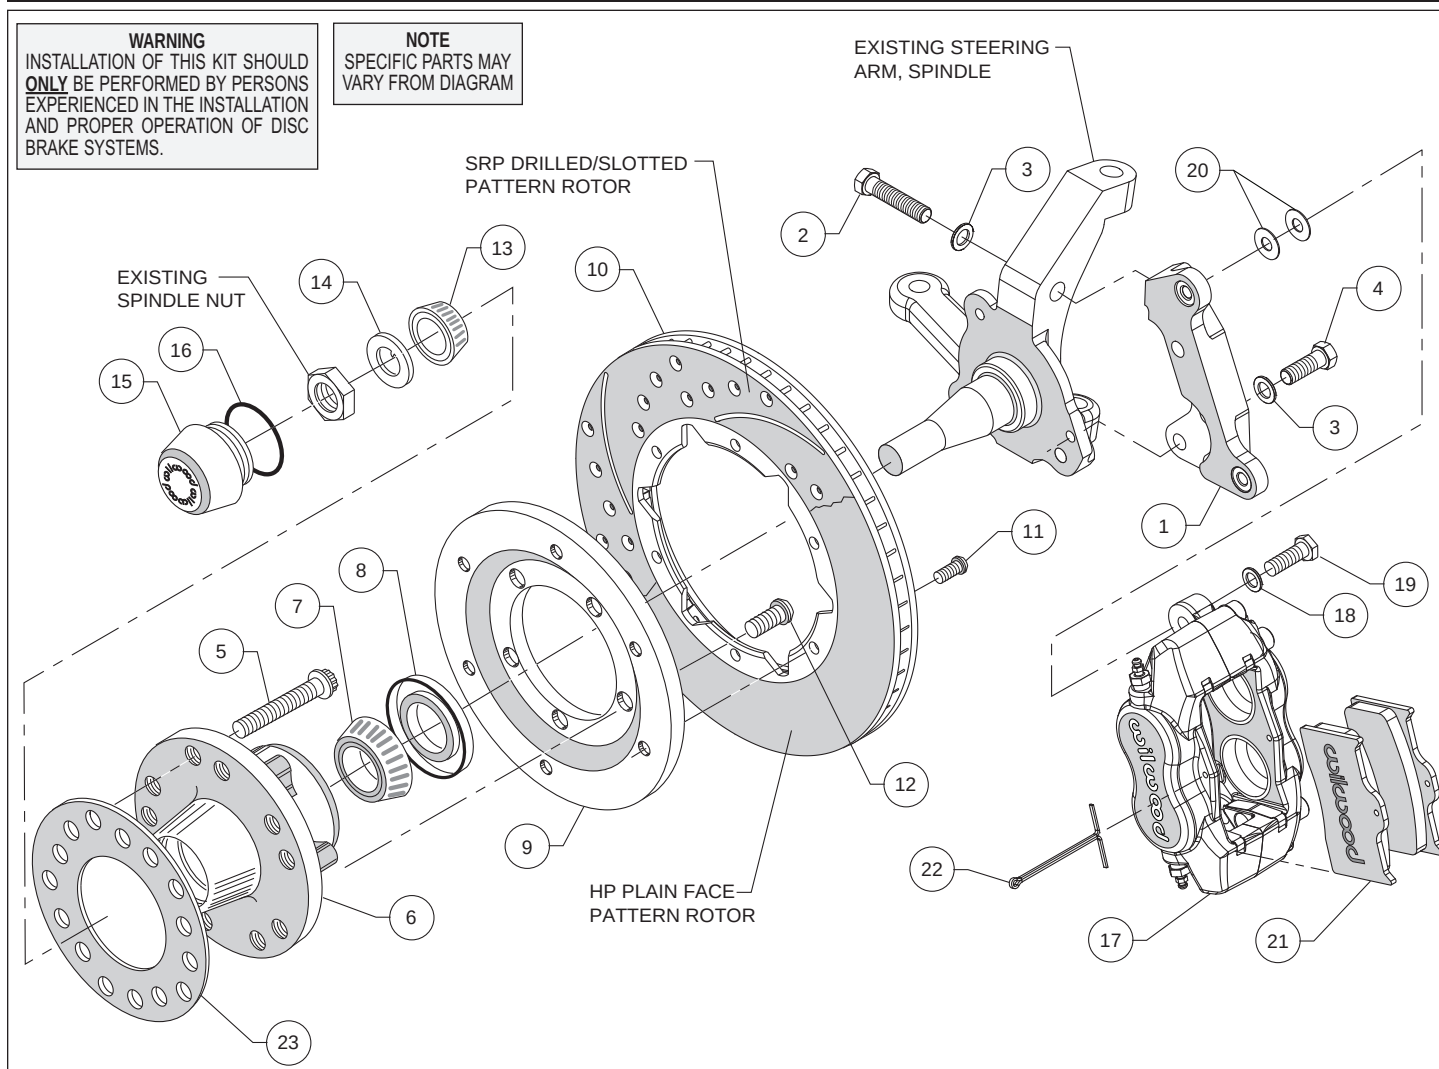
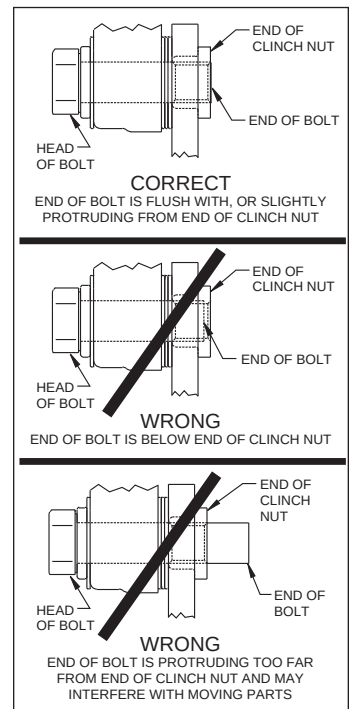

Figure 1. Typical Installation Configuration
Figure 3. Clinch Nut Engagement Diagram
Assembly Instructions (numbers in parenthesis refer to the parts list, on the preceding page and Figure 1): **CAUTION:** All mounting bolts must fully engage clinch nuts. Be sure to check that all bolts are either flush or protruding through flanged side of clinch nut after shimming, Figure 3.
- Align caliper mounting bracket (1) with the corresponding holes on the spindle. Attach using bolts (2 and 4) and washers (3) as shown in Figure 1 and Photo 1. Temporarily tighten the mounting bolts. Ensure that the flanged heads of the clinch nuts in the bracket are facing outboard, Photo 1. **NOTE:** The bracket must fit squarely against the mounting points on the spindle. Inspect for interference from casting irregularities, machining ridges, burrs, etc. Remove bolts one at a time, apply red *Loctite*® 271 to threads and torque to 47 ft-lbs.
- Install the grease seal (8) by pressing into the backside of the hub (6), flush with the end of the hub, Photo 3.
- Orient the rotor (10) and the rotor adapter (9) as shown in Figure 1 and Photo 4. Attach the rotor to the adapter using bolts (11). Using an alternating sequence, apply red *Loctite*® 271 to the threads, and torque to 25 ft-lb.
- Mount the adapter/rotor assembly (9/10) to the hub (6) using bolts (12), as shown in Figure 1 and Photo 5. Using an alternating sequence, apply red *Loctite*® 271 to the threads, and torque to 45 ft-lb.
- NOTE:** Please reference the caution statement at the beginning of the assembly instructions. Mount the caliper (17) onto the caliper mounting bracket (1) using bolts (19) and washers (18), as shown in Figure 1. Initially place two .035" thick shims (20) on each bolt between the caliper and the bracket, Photo 8. Temporarily tighten the mounting bolts and view the rotor (10) through the top opening of the caliper. The rotor should be centered in the caliper, Photo 9. If not, adjust by adding or subtracting shims between the bracket and the caliper. Always use the same amount of shims on each of the two mounting bolts. **NOTE:** The end of each bolt must be flush with or slightly protruding from the head of the clinch nut, as shown in Figure 3. If necessary place spare shims between washer (18) and caliper mounting ear to achieve the proper clinch nut engagement. Once the caliper alignment and clinch nut engagement are correct, remove the bolts one at a time, apply red Loctite® 271 to bolt threads, and torque to 40 ft-lb.
- Install the disc brake pads (21) into the caliper, with the friction material facing the rotor (10), and secure in place using cotter pin (22), Photo 10.